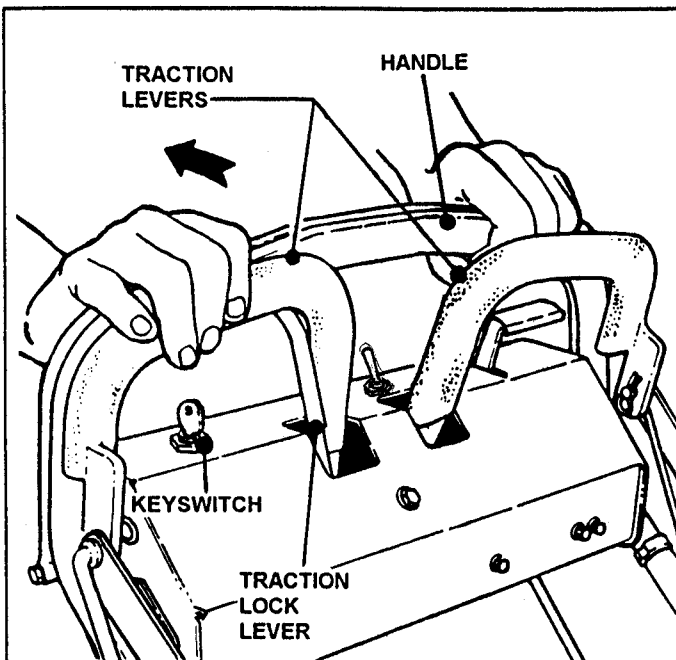

FIGURE 2
1. Squeeze both Traction Levers firmly against the Handle to stop forward or reverse motion. Using your right hand thumb, push the Traction Lock Lever full forward into Park Brake position. See Figure 2.
2. Pull Blade Clutch Switch backward (toward handle) to the OFF position. See Figure 2.
4. **STOP ENGINE** by turning Key switch to OFF. See Figure 2.
1. Pull both TRACTION LEVERS toward the Handle to stop forward or reverse motion, while pushing the Traction Lock Lever full forward until it locks both Traction Levers in Park Brake position. See Figure 2
2. Pull the Blade Clutch Switch backward to the OFF position. See Figure 2.
- 2a. Pull both Traction Levers toward the Handle while pushing Traction Lock Levers forward until it locks the Traction Lock Lever in Park Brake Position. Refer to Figure 2.